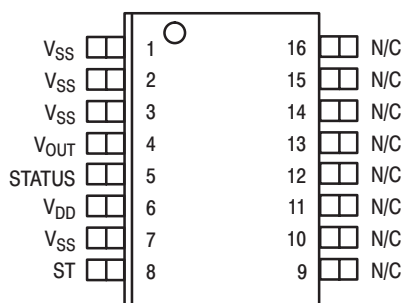

Figure 4. Pinout Description
- Place a ground plane beneath the accelerometer to reduce noise, the ground plane should be attached to all internal V_{SS} terminals shown in Figure 4.